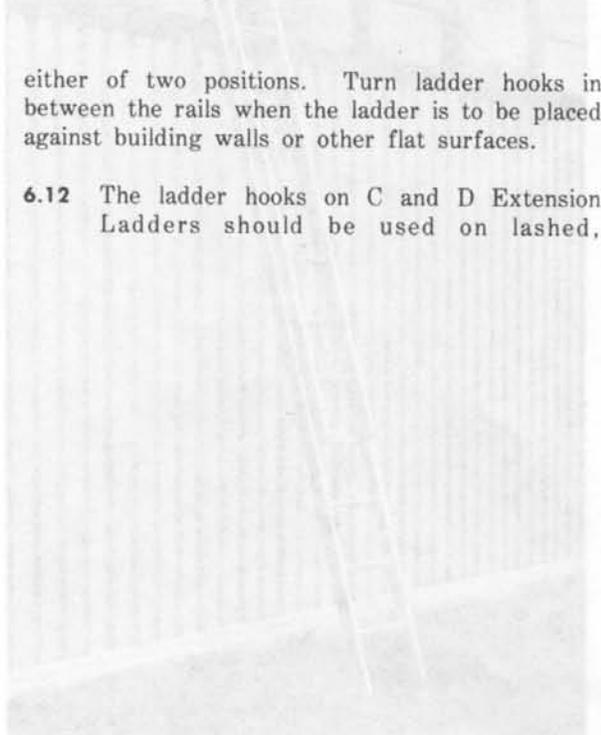

Fig. 12—Ladder placed in front of window
6.13 To prevent possible damage to a building having fragile siding, such as enameled aluminum, asbestos, etc, attach a **Ladder Pad** to the top section of the ladder before it is placed against the structure. The Ladder Pad is 4 inches wide by 24-1/2 inches long (Fig. 12). The distance between the mounting brackets on the pad can be adjusted so that the pad can be attached to any standard ladder. The brackets pivot to ensure proper contact between the pad and the surface of the structure.